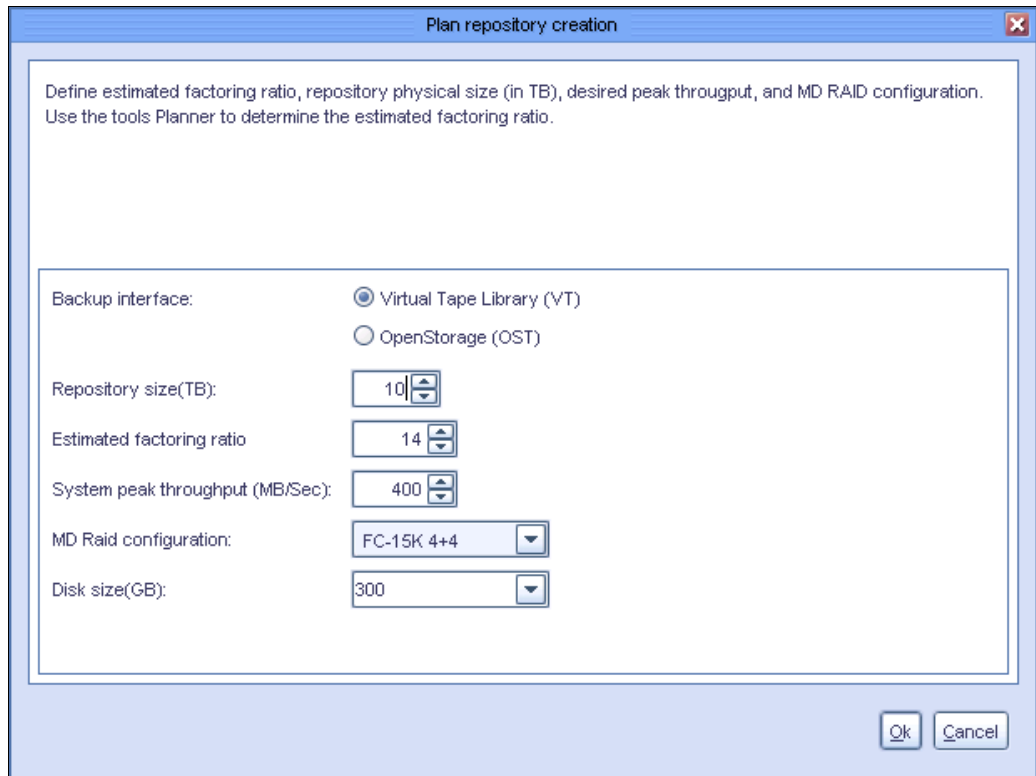

Figure 5-46 Create repository planning wizard
2. The Plan repository creation window opens (Figure 5-46). Select the backup interface. It can be either Virtual Tape Library or OpenStorage (OST); it cannot be both at the same time.